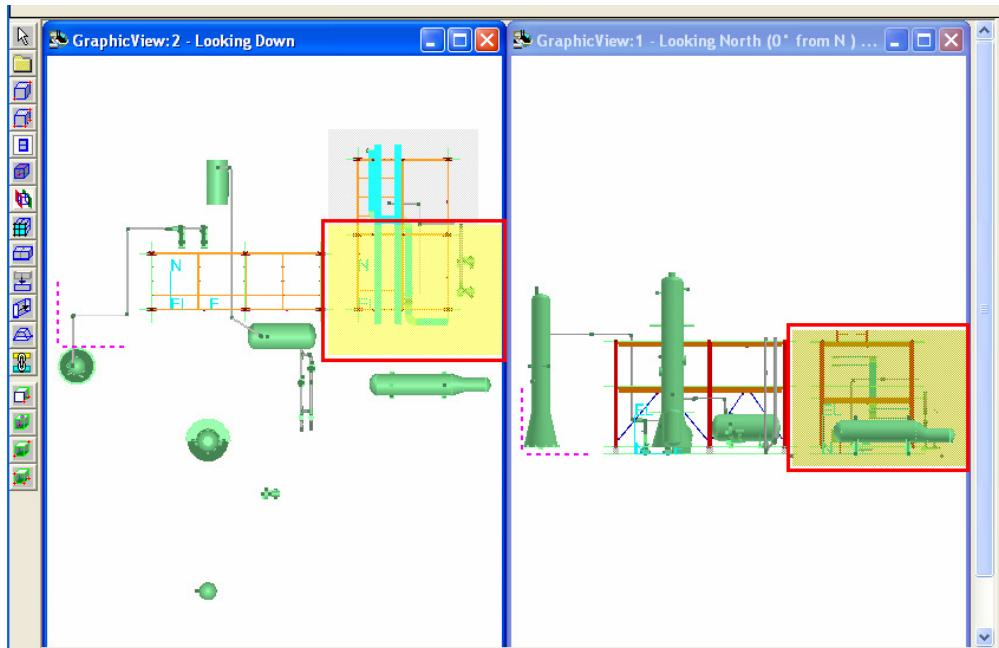

Figure 21: View of Model After Placing the First Volume
8. Click the graphic view to place the volume as highlighted in Figure 21.